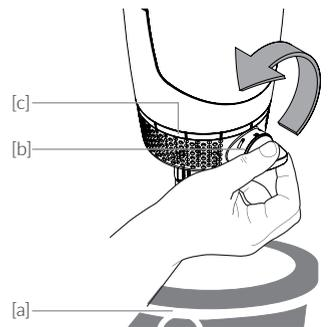

Fig. 8.2
- / Turn the backwash handle [b] in the direction of the arrow by 90° back to the starting position (Fig. 8.2).
- / acc: to chapter 8 Backwashing, Fig. 8.2 turn the backwash handle [b] back 90° in the direction of the arrow